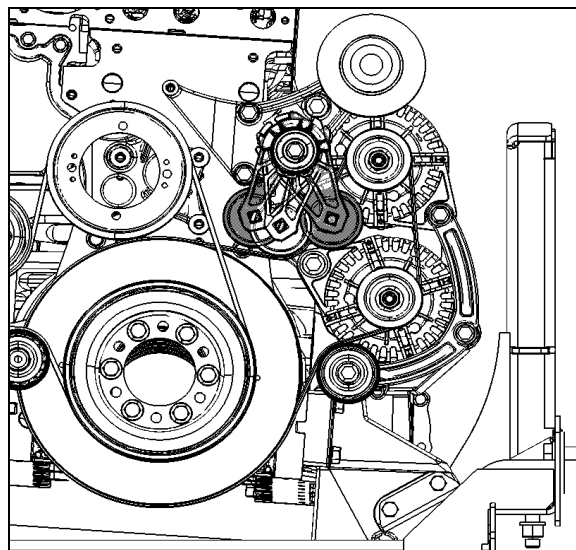
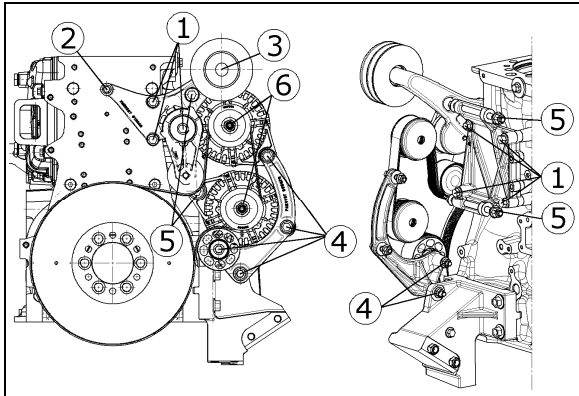

FIGURE 22: ALTERNATORS DRIVE BELT
FIGURE 23: TWIN BOSCH ALTERNATORS INSTALLATION
If the alternators needed to be removed, reinstall as follows. Refer to figure 22 for installation and to figure 23 for tightening specifications:
1. If necessary, tighten screws (6) fixing alternators support assembly onto engine (1, figure 23). Torque tighten to 43 Lb-Ft, use some Loctite 243 blue (680038) onto the threads. Also tighten screw (1) fixing belt tensioner onto alternators support assembly (1, figure 23). Torque tighten to 43 Lb-Ft, use some Loctite 243 blue (680038) onto the threads.
2. If removed, reinstall screw (1) fixing alternators support assembly onto engine (2, figure 23). Torque tighten to 22 Lb-Ft, use some Loctite 243 blue (680038) onto the threads.
3. Mount the A/C compressor idler pulley onto alternators support assembly (3, figure 23). Torque tighten to 150 Lb-Ft, use some Loctite 243 blue (680038) onto the threads.
4. Install alternators arched support loosely onto engine. If removed, install alternators idler pulley (4, figure 23) onto alternators arched support, torque tighten to 43 Lb-Ft.
5. Fix lower and upper alternators loosely to alternators support assembly using bolts (5, figure 23). Also, mount the lower and upper alternators onto alternators arched support. If removed install stone guard below lower alternator.
7. Mount pulleys (6, figure 23) onto alternators. Torque tighten to 58 Lb-Ft.
8. Install alternators belt (figure 22).
1. Insert a 3/4" socket drive into the automatic belt tensioner opening (Fig. 22).